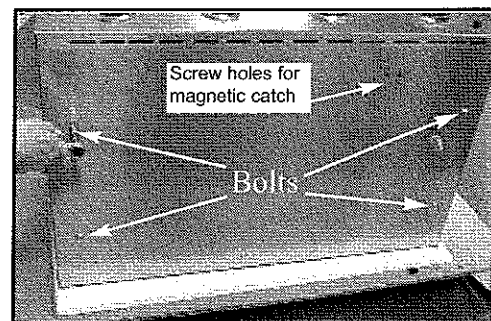

Fig. 4
3. Have someone help you pick up the grill and set it on the top of the cart, with the **front** of the grill above the door opening. Make sure the 4 bolt heads fall through the large opening of the key hole slots in the top of the cart. Slide the grill head **forward** so the bolts are resting in the small opening of the key hole slots. Tighten the bolts securely-be sure not to over tighten and strip the bolts. Next insert 4 hex head screws into grill bottom through cart. (See Fig. 4)